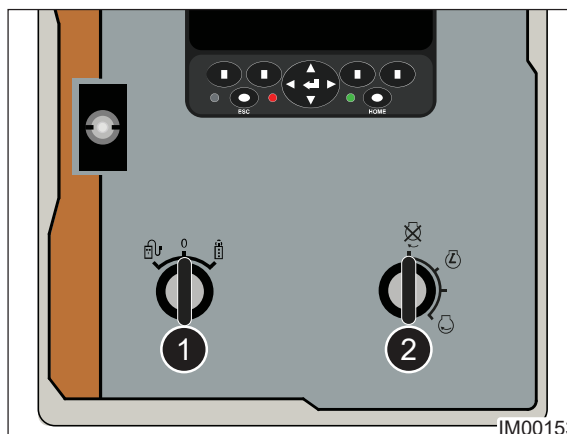

Fig: 9.4 - Track Switch - Radio Remote Position
5. Rotate the handset switch Counter-Clockwise to the Off/Neutral position (Item 1, Fig: 9.4).
6. Rotate the Ignition Key (Item 2, Fig: 9.4) counter-clockwise to switch off the engine. Remove the key from the ignition and store in a safe location.